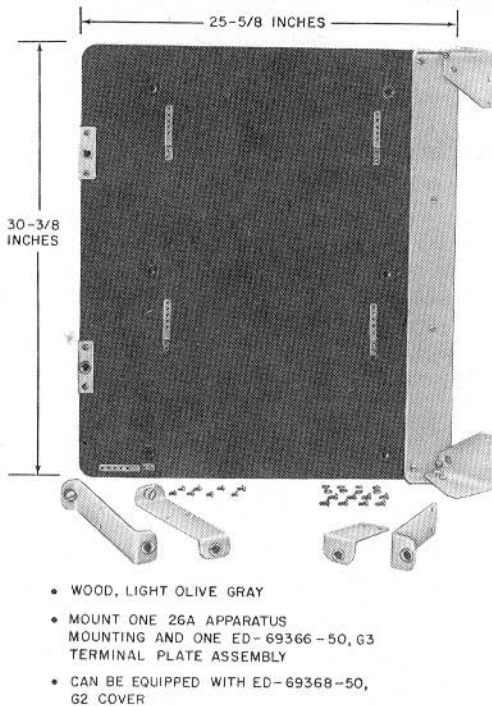

Fig. 25—Backboard per ED-69368-50, Group 1
5.05 The ED-69368-50, Group 1 backboard (Fig. 25) is designed to mount one 26A apparatus mounting and one ED-69366-50, Group 3 terminal plate assembly. The backboard has a light olive gray finish. To mount the terminal plate, four 824124788 (P-41K478) brackets, four 802056515 (P-205651) RHM screws, and eight 802065680 (P-206568) RHM screws must be ordered separately.